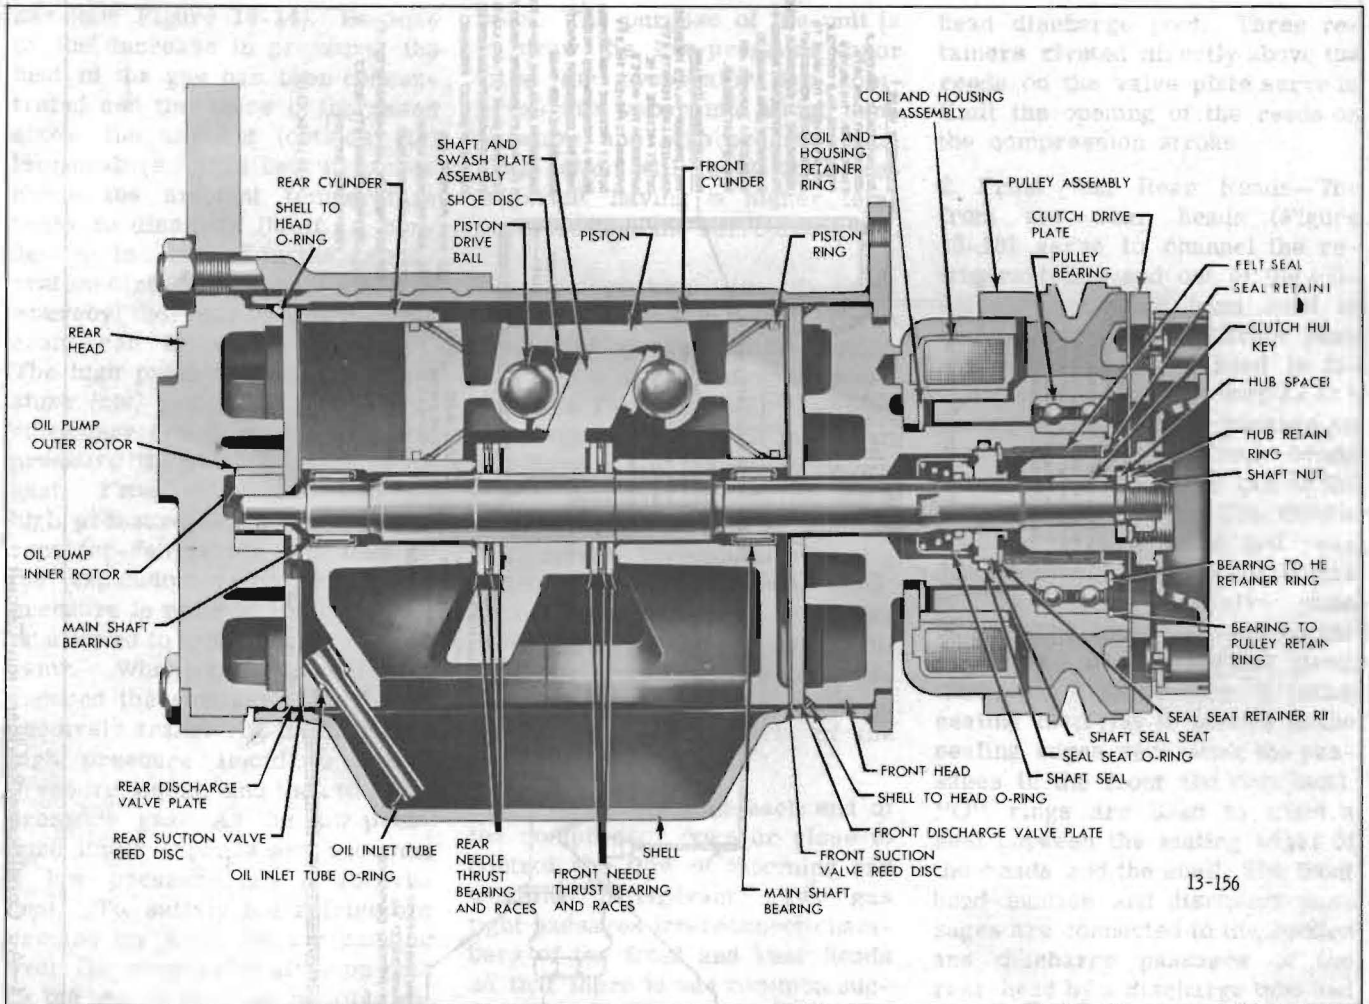

Figure 13-16—Compressor (Sectional View)
The compressor is of basic double action piston design. Three horizontal double acting pistons make up a six cylinder compressor (see Figure 13-16). The pistons operate in 1-1/2 inch bore and have a 1-1/8 inch stroke. A swash plate keyed to the shaft drives the pistons. The shaft is belt driven through a magnetic clutch and pulley arrangement. An oil pump mounted at the rear of the compressor picks up oil from the bottom of the compressor and lubricates the bearings and other internal parts of the compressor.
4. Shaft and Swash Plate Assembly--The shaft and swash plate assembly (see Figure 13-16)